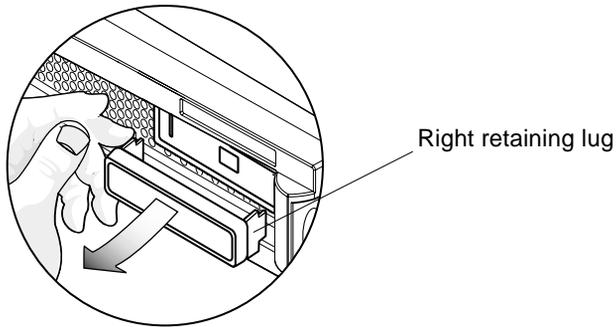

FIGURE 1-6 Pulling the Right Retaining Lug Away From the Bezel
2. Pull the retaining lug on the right away from the bezel so that the nameplate comes free of the bezel (see FIGURE 1-6).